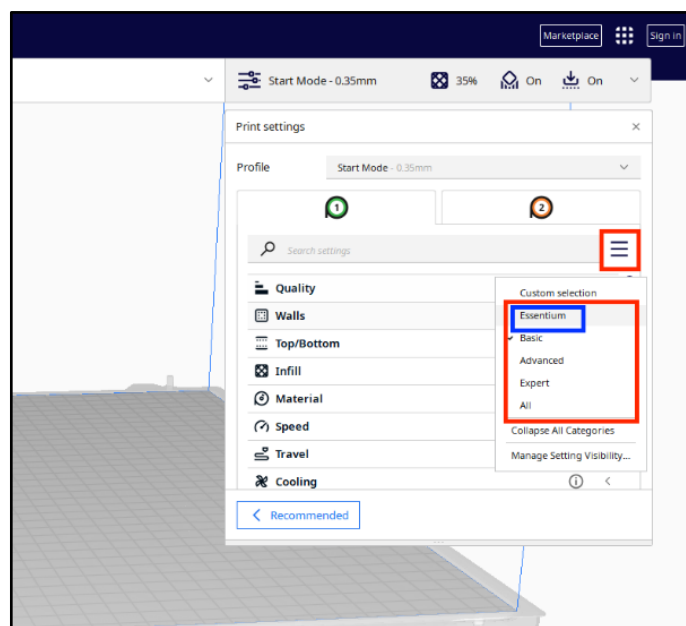

Figure 30: Modifying Settings
21. Select settings visibility. Essentium has a custom option for which settings are visible at the right-hand panel, showing the settings that are most often modified in Cura for HSE printers (See Figure 30).